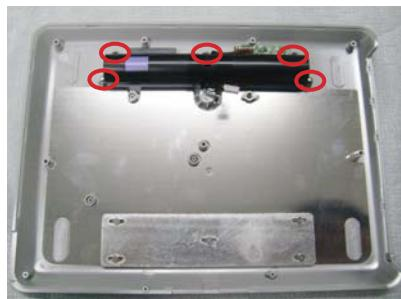

Fig.8
8. Remove battery ass'y as Fig.8.